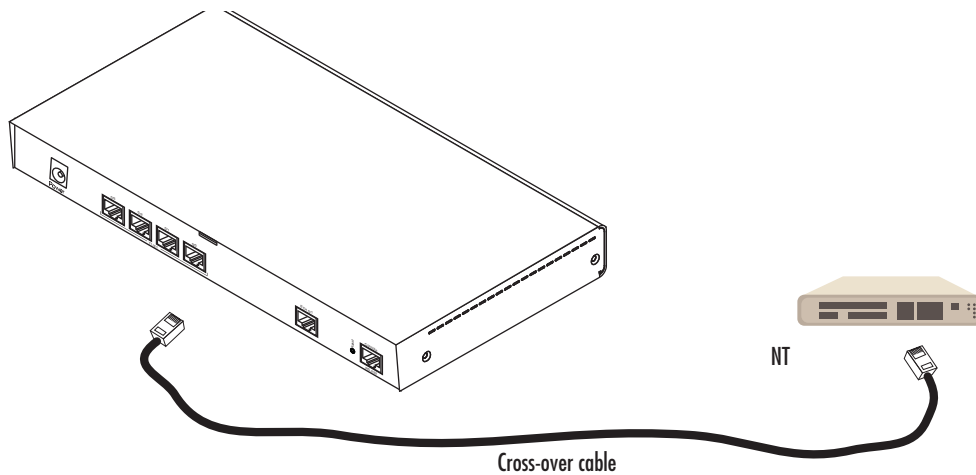

Figure 15. Connecting a T1 PRI port to an NT device
The T1 PRI is usually connected to a PBX or switch—local exchange (LE). Type and pin outs of these devices vary depending on the manufacturer. In most cases, a straight-through RJ-45 to RJ-45 can be used to connect the PRI with a PBX. A cross-over cable is required to connect to an NT device, as illustrated in figure 15 on page 48.